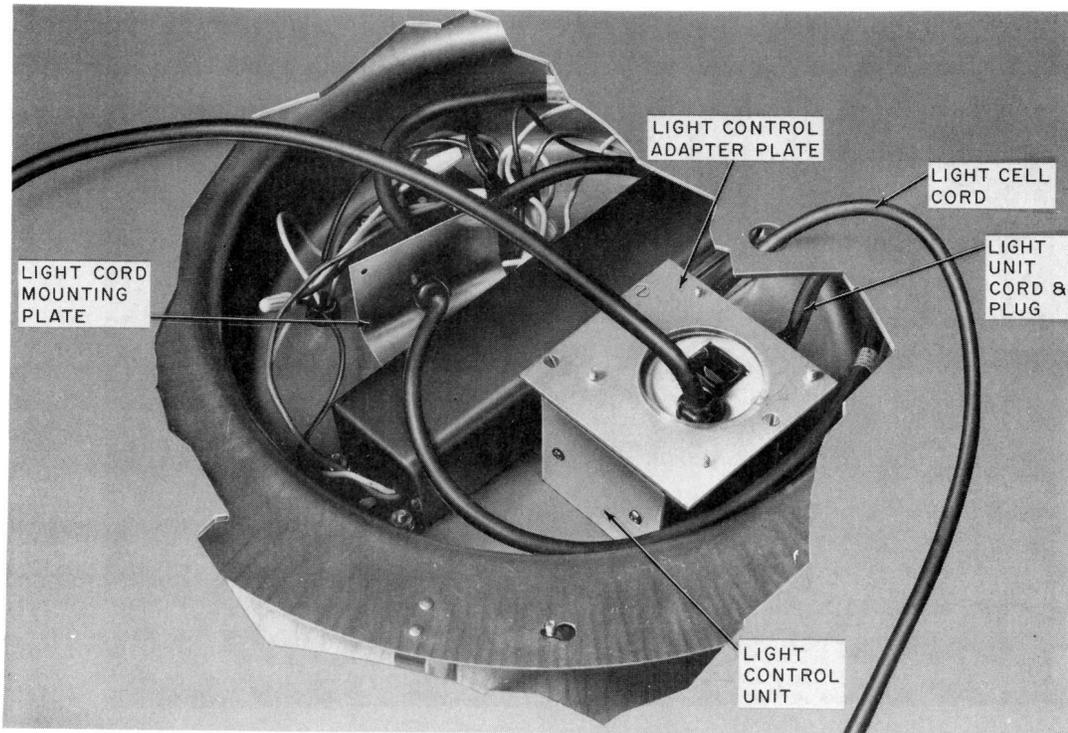

Fig. 19—Position of Light Control in Light Fixture
- (13) Place light cell into shell and put roof into position.
- (14) Bend light cord mounting plate and wedge it under ballast (Fig. 19).
- (10) Place control unit power cord plug near receptacle so that it may be reached from inside of booth.
- (11) Place light cell into shell and put roof into position.
- (12) Bend light cord plate and wedge under ballast (Fig. 19).
- (13) Hold light fixture near ceiling and plug light cord into ceiling unit. Position light fixture so that ballast lies along the diagonal from left to rear right booth (starters toward left rear of booth).